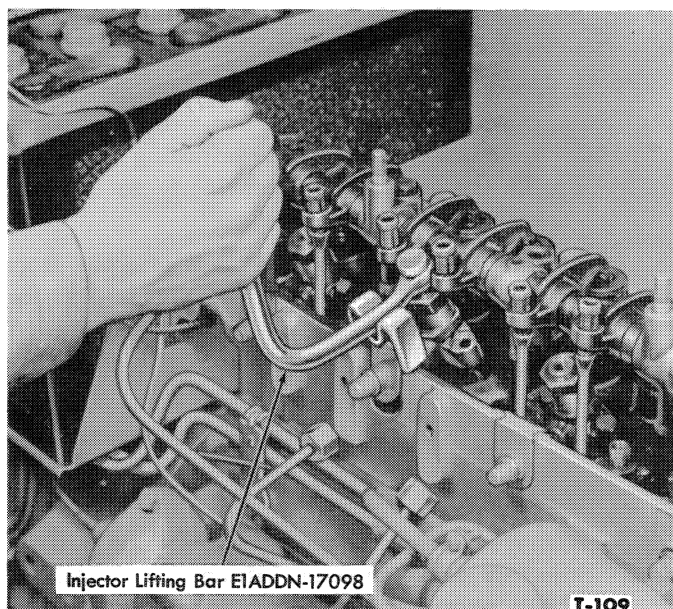

Figure 6—Removing Fuel Injectors
5. Remove the injector mounting bolts and pull the injectors using Injector Lifting Bar, EIADDN 17098, shown in Figure 6. Screw the knurled knob assembly of the bar into the top of the